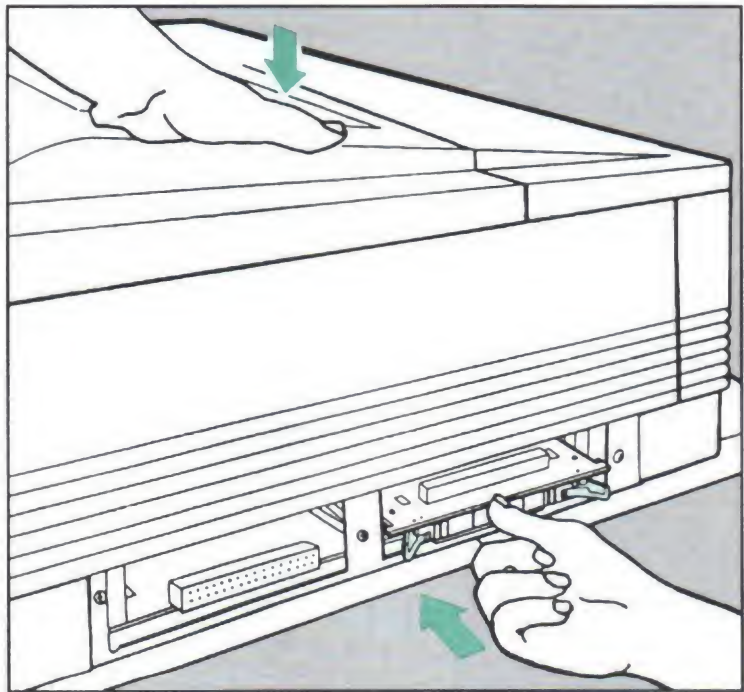

Figure E-5. Seating Board
6. To fully seat the board, hold the printer with your free hand, then **firmly** push against the board's flat green plastic area (see Figure E-5).